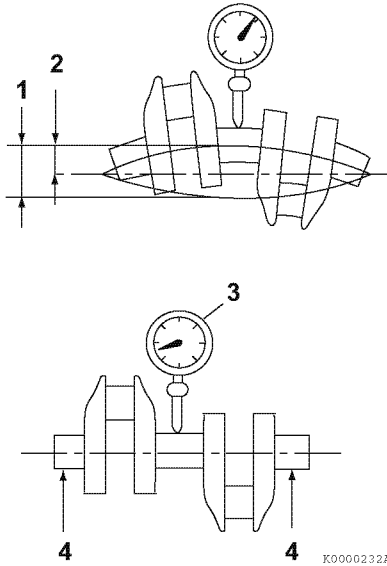

Figure 6-73
1. Place the crankshaft end journals (4, **Figure 6-73**) on V-blocks.
2. Place a dial indicator (3, **Figure 6-73**) on a center main bearing surface.